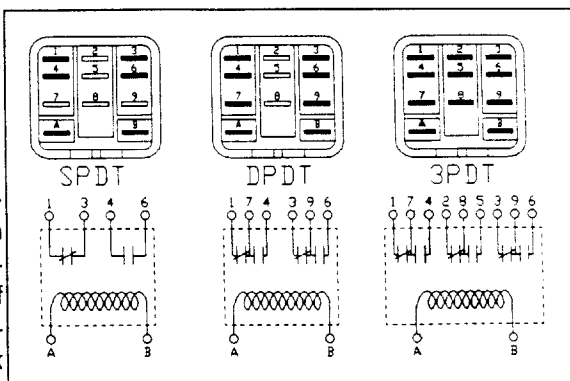

Figure 2 Class 389 Relay Contact Options
2) Next make the load control connections at the individual circuit breakers and apply appropriate control labels. A selection of either normally-closed or normally-open contacts are available. The normally-open contracts are intended for control of pilot relays. Class 389 relays are wired at the factory for normally-closed operation. This can be changed by moving the quick disconnects from normally-closed relay contacts (1 & 3) to normally-open contracts (4 & 6). See figure 2.